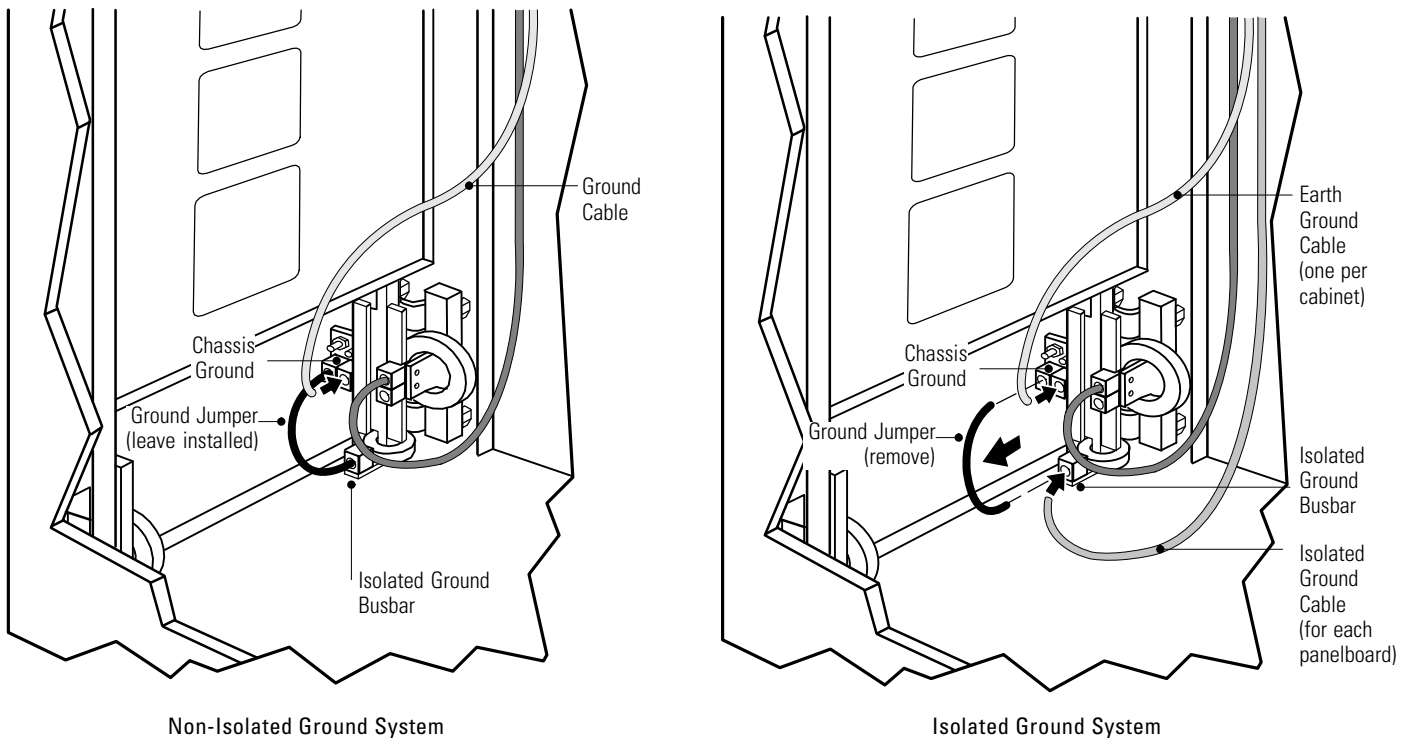

Figure 10. Installing the Ground System (Quad-Feed Input Configuration)
6. Quad-Feed Input configuration. The cabinet has a ground jumper installed from the chassis ground to the isolated ground busbar. Adjust the installation for the required ground system (see Figure 10, and Table 2 and Table 3 on page 19):
NOTE Figure 10 shows top entry wiring and side access installation.